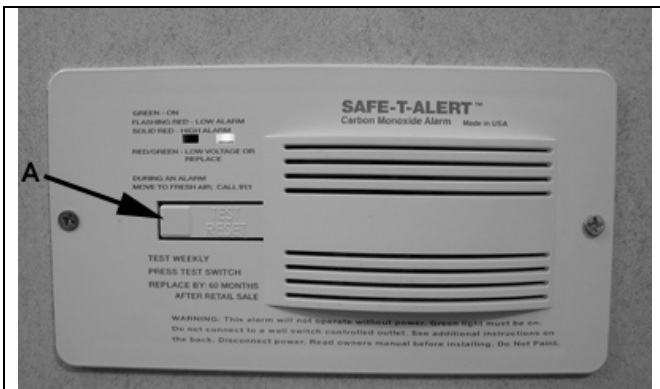

Figure 3-1 – Carbon Monoxide Detector
Press the test button (A) until alarm sounds, then release. See figure 3-1. If alarm does not sound, replace it before using any gas appliance.